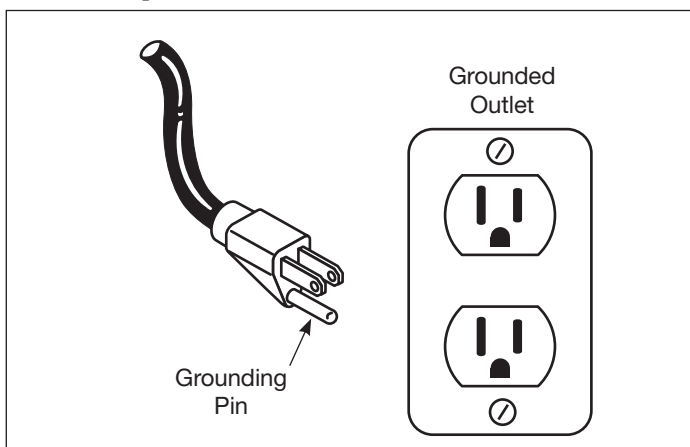

Figure 1 - Grounding
- ◆ This product is for use on a nominal 120-volt circuit and has a grounding plug that looks like the plug in Figure 1. Make sure that the product is connected to an outlet having the same configuration as the plug. No adapters should be used with this product.